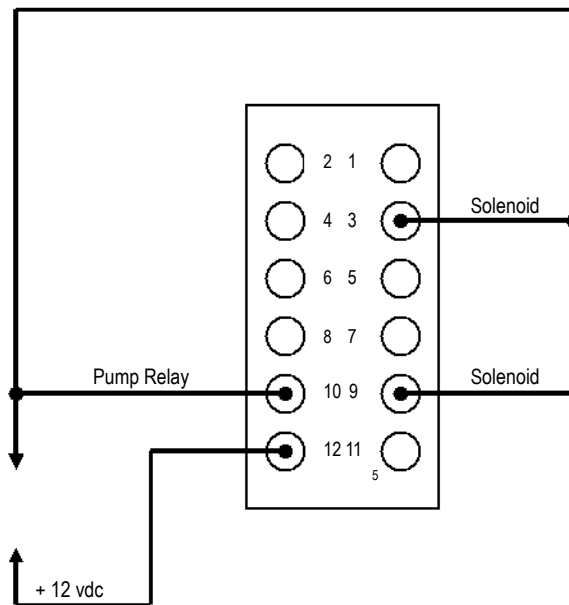

Figure 5: Connection Diagram to Unlock and Raise Hard Tonneau Cover Connector 1 – End View
Step 8: If step 7 was successful, you can now open the rear hard tonneau by connecting the lead to pins 3, 9, and 10 as shown in Figure 5. Make sure the rear bow is held out of the way of the opening for the tonneau and again, touch +12 vdc to the connection for 3, 9, and 10. The hard tonneau should unlatch and spring open. Have something ready to hold the tonneau open as it will also close once power is removed. Again, not more than 5 seconds of pump operation under these conditions.